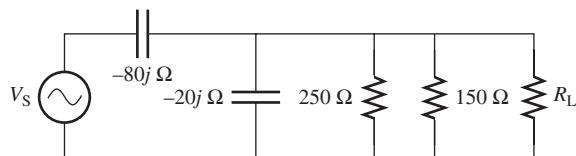

FIGURE P6.50 Circuit for Problem 6.50.
6.50 (B)* What are the Thévenin/Norton equivalent resistance observed by R_L for the circuit shown in Figure P6.50? Provide the answer to two decimal places.